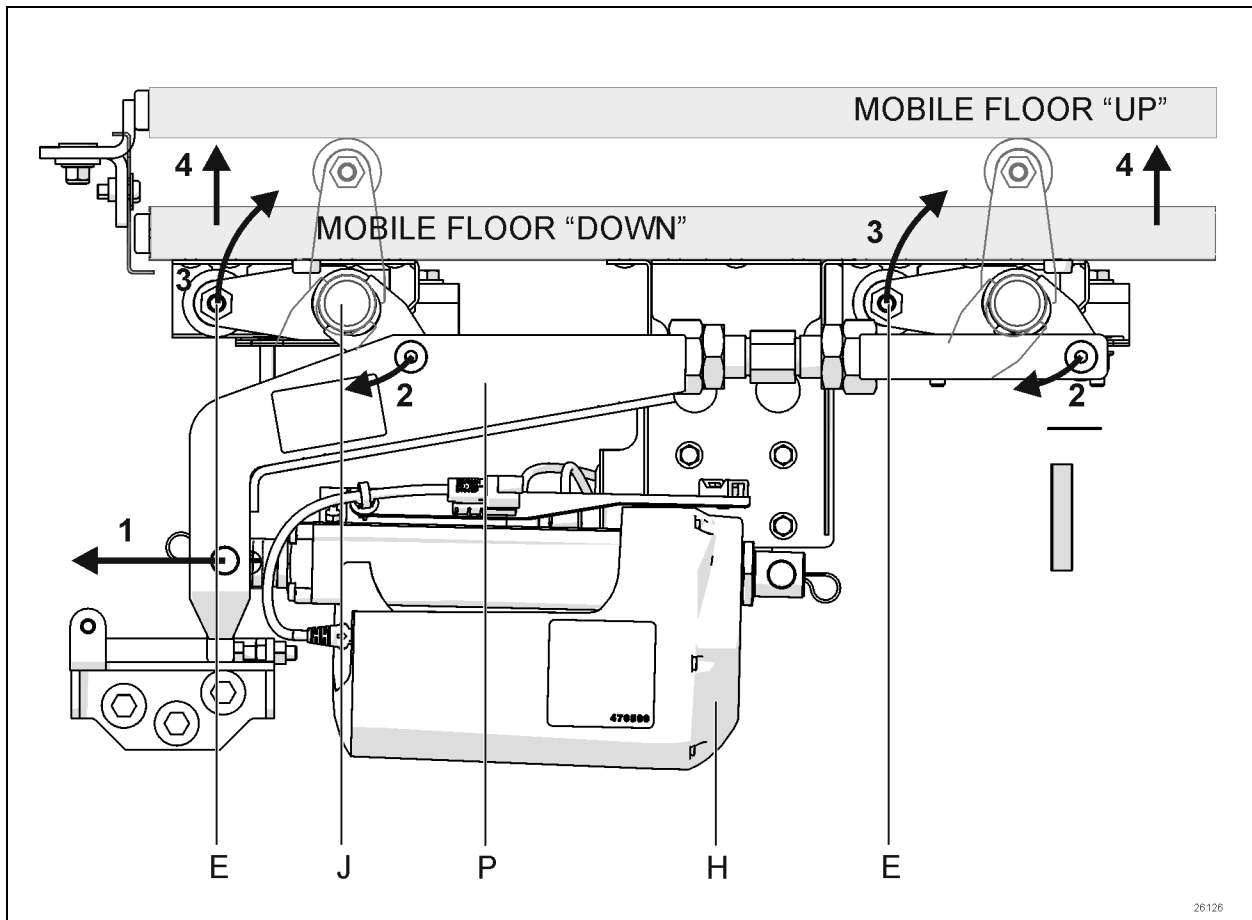

FIGURE 57: FLUSH FLOOR LIFTING
When the linear actuator extends (Figure 57, 1), the transfer arm rotates the floor lift shaft links inward (2), rotating at the same time the eccentric rollers upward (3), effectively lifting the mobile floor (4) The vertical movement of the floor is guided by a pair of vertical linear bearings (G).